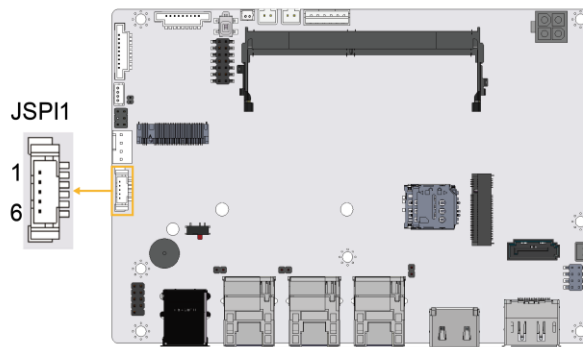

Figure 3-18: SPI Flash Connector Location
- CN Location:** See **Figure 3-18**